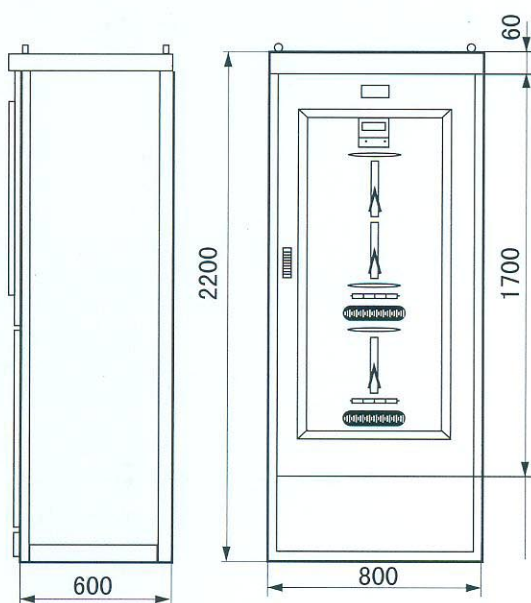

图3 PJ2-D电能计量柜外型图
- ◆ PJ2-D柜体尺寸: 800 (宽) × 600 (深) × 2200 (高) 外形见图3。
- ◆ PJ2 - D: 800 (Width) × 600 (Depth) × 2200 (Height); refer to Fig. 3 for overall.